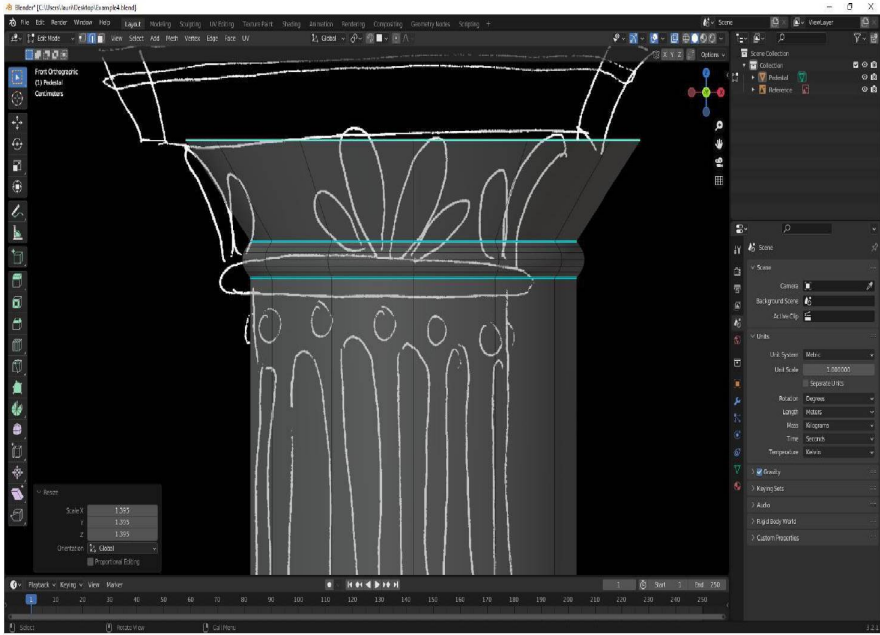

Figure 4.23: Extruded edge loop, scaled outward
11. Select the top-most edge of the cylinder, extrude it upward in the z axis, confirm the extrusion, and this time, press **S** to scale the new edge outward in the x and y axes as shown in *Figure 4.23*: